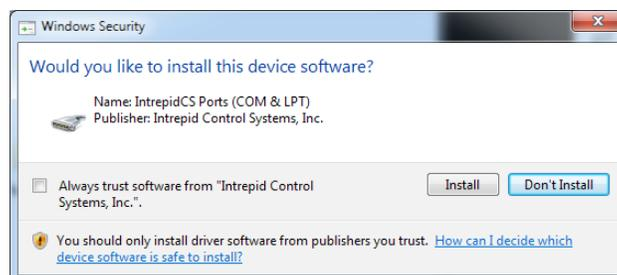

Figure 32: Windows Security Dialog Box.
10. **Install ICS Port Drivers:** Click to begin installing the ICS port drivers. If you see a Windows dialog like the one in Figure 32, click to authorize installation.